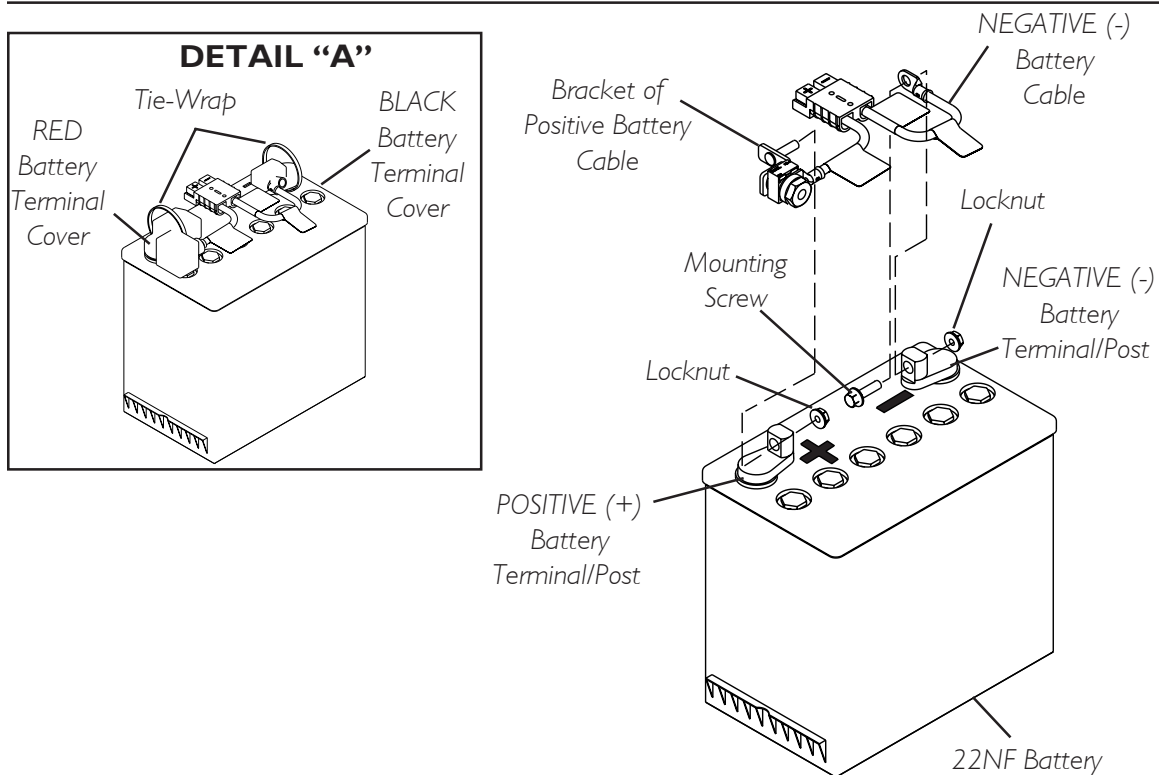

FIGURE 9 - REPLACING 22NF BATTERIES FRONT BATTERY WITH WIRING HARNESS
22NF BATTERIES**Front Battery with Wiring Harness (FIGURE 9).**
2. Cut the tie-wraps that secure the battery terminal covers to the battery terminals. Refer to Detail “A” in FIGURE 9.
3. Perform the following:(Detail “A” in FIGURE 9)